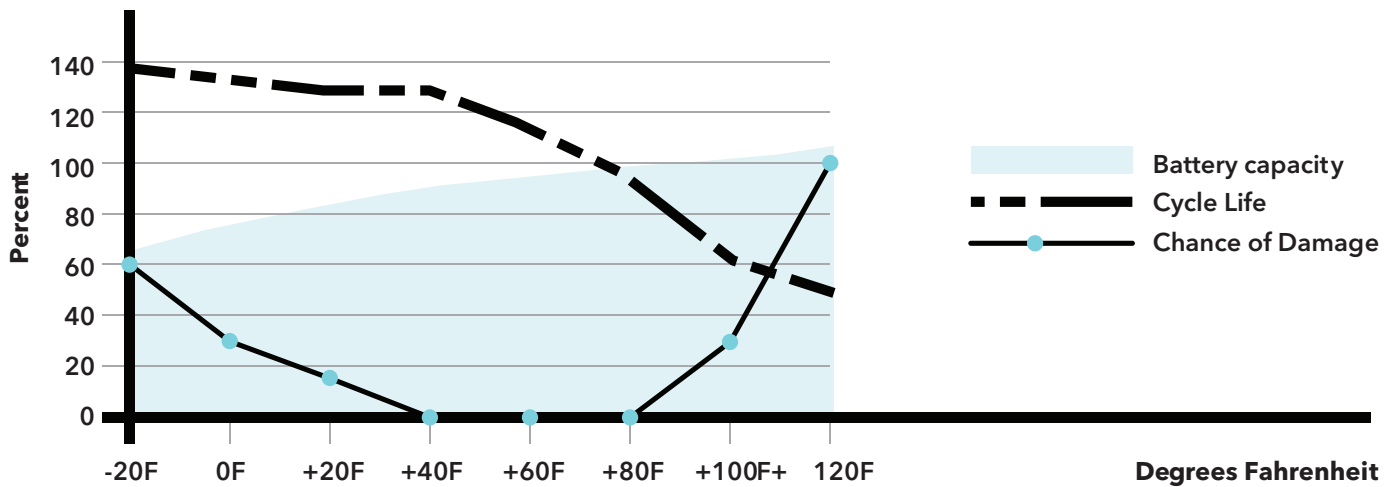

Figure 3: Capacity is higher in higher temperatures, but the chance of damage is also much higher.
**faster**, but here control is essential in order to charge the battery without significant harm (e.g. a cell explosion). So the temperature impact should be taken into account when planning the physical place where the battery will be used (see Figure 3).